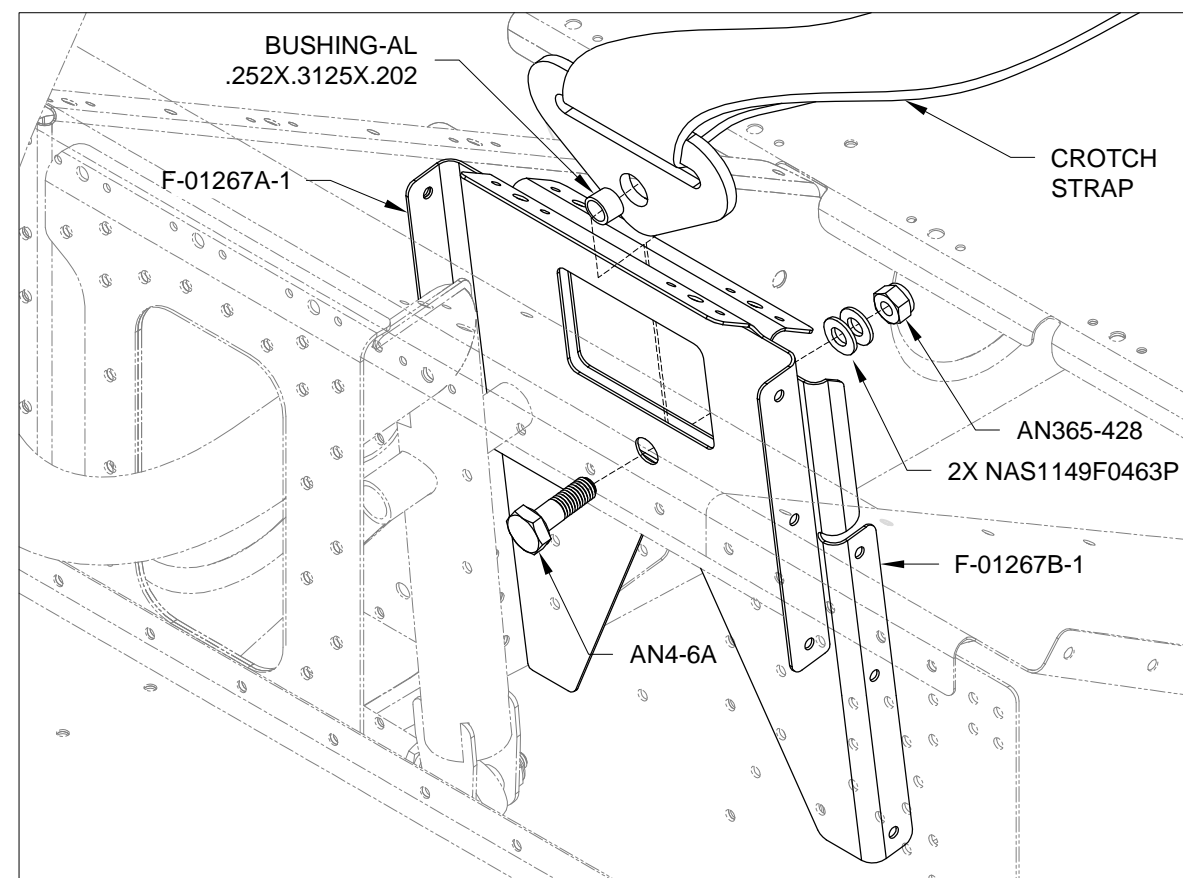

FIGURE 2: CROTCH STRAP INSTALLATION
Step 3: Attach the end fitting of the crotch straps to the F-01267A-1 & B-1 using the hardware called out in Figure 2.